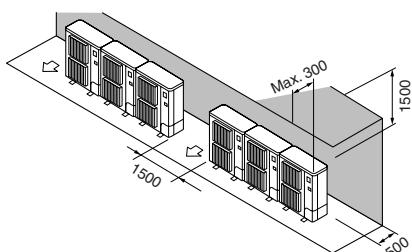

Fig. 3-12
① Obstacles at rear only (Fig. 3-12)
② Obstacles at rear and above only (Fig. 3-12)